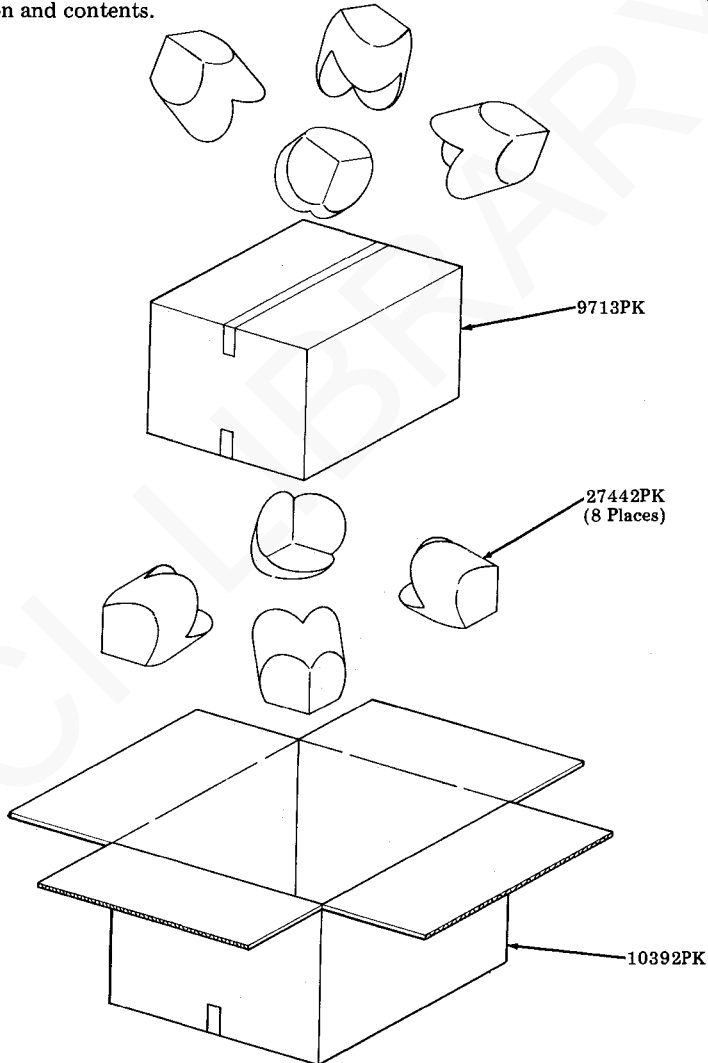

Fig. 68
- Step 15. Form a 10392PK carton. Fold bottom flaps outward and place around sealed carton. (See Fig. 68.)
- Step 16. Position a 27442PK plastic corner on each of the four corners of the inner carton. (See Fig. 68.)
- Step 18. Position a 27442PK plastic corner on each of the four corners of the inner carton. (See Fig. 68.)